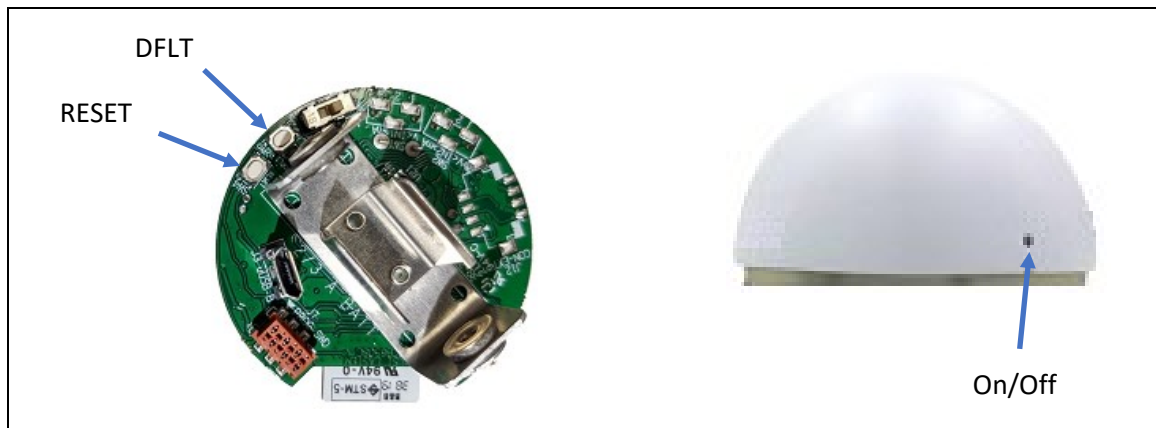

Fig. 2 – Positioning keys on board type sensors PRMPv040x.
5. Holding down the DFLT key (\$Fig. 2), press the RESET button; then release the RESET button and then the DFLT button.